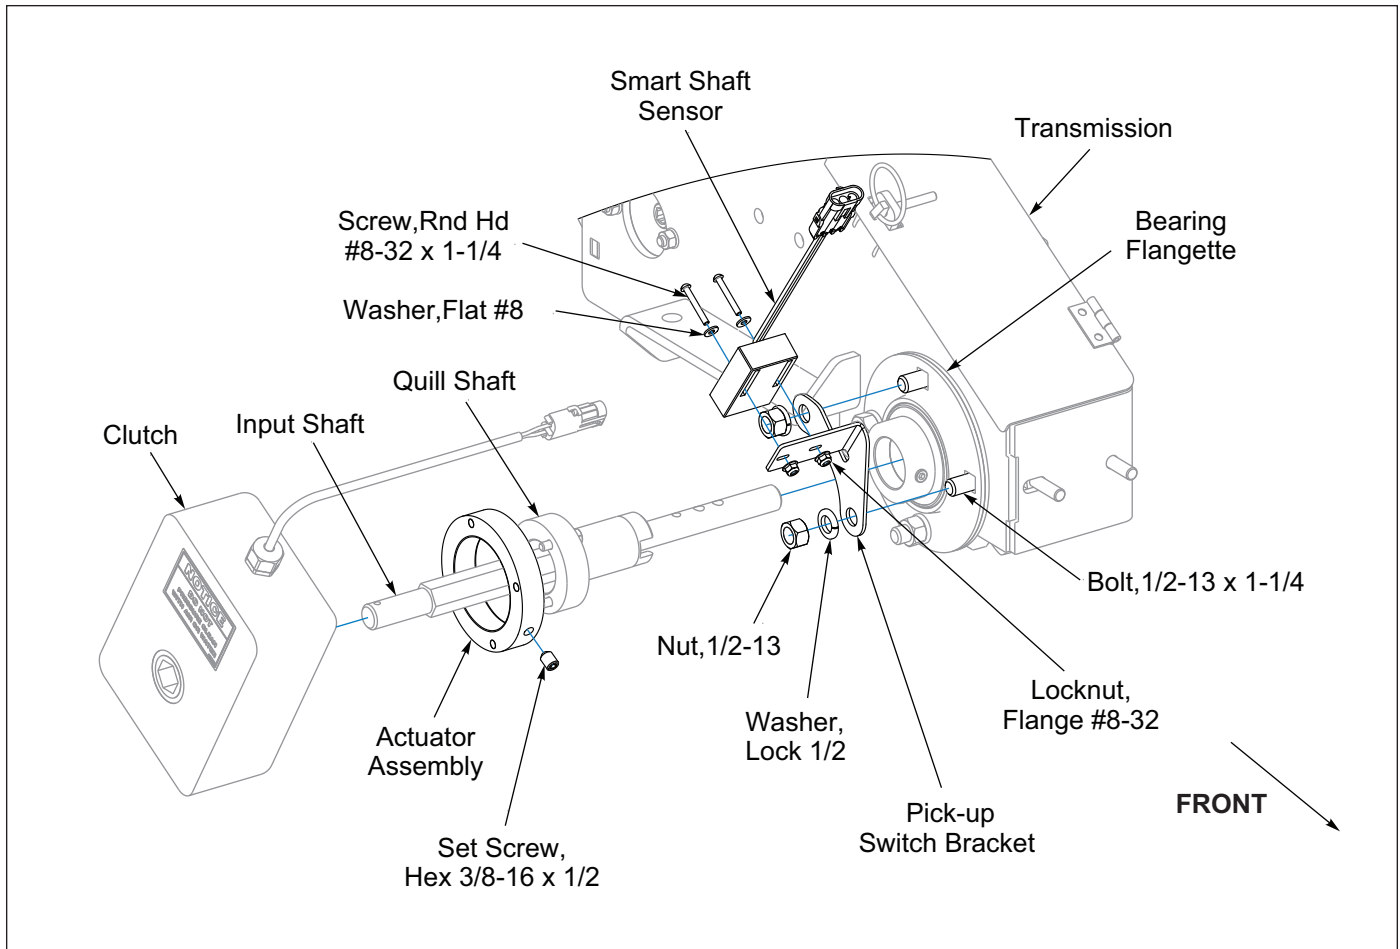
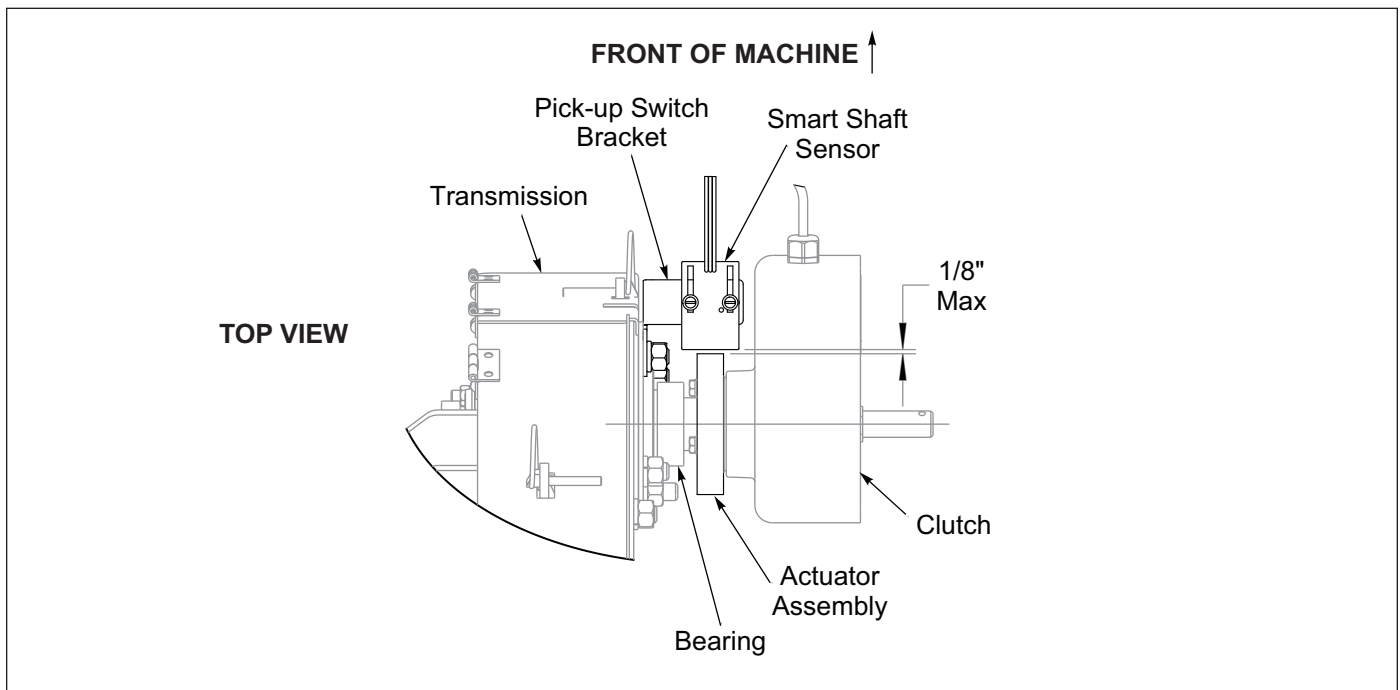

Figure 2-5: Brillion Elite Mini Monitor - Ground Speed
Figure 2-6: Brillion Elite Mini Monitor - Ground Speed Detail
2. On the Center Seeder only, remove Clutch. Install Actuator Assembly onto the Quill Shaft outer diameter, secure with Actuator Assembly Set Screw. Reinstall Clutch. **See Figure 2-5.** Install Pick-up Switch Bracket to the Transmission Input Shaft Bearing Flangette Hardware. Assemble Smart Shaft Sensor onto the Pick-Up Switch Bracket with sensor provided hardware and #8-32 Flange Locknuts. Adjust the Smart Shaft Sensor so that it is 1/8" Max away from the Actuator Assembly. **See Figure 2-6.** Connect Ground Speed Smart Shaft Sensor to the Center Seeder Harness.